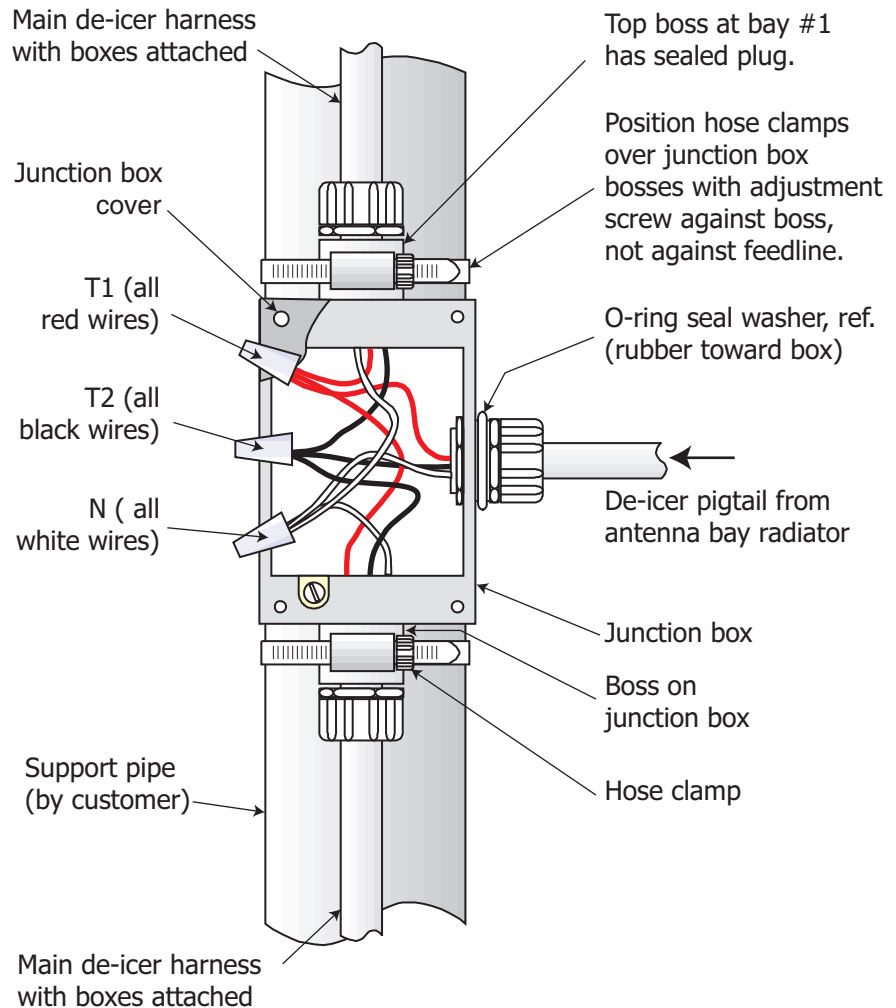

Figure 8. Bay junction box installation
- Bay junction box: Figure 8 on page 10.
- a. Install the main de-icer harness with its bay junction boxes as shown in Figure 7 on page 8 and Figure 8 on page 10. Connect the leads from each bay's de-icer pigtail to the main harness in that bay's junction box as shown.